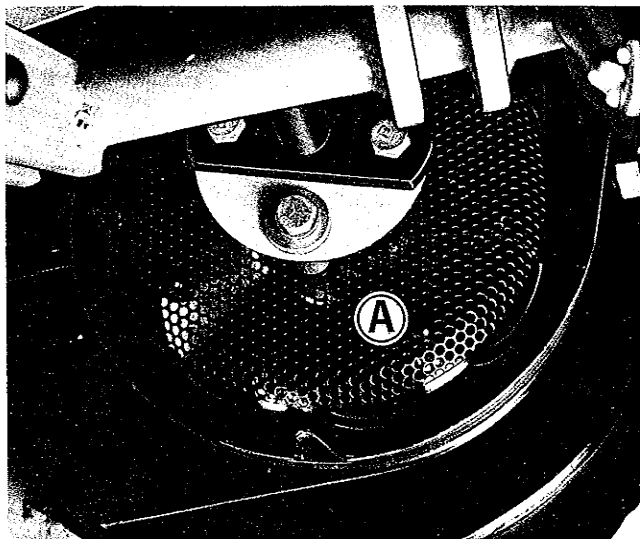

Figure 18. Engine blower screen located at rear of engine as seen from beneath tractor.
**CLEAN ENGINE FINS AND SCREEN:** See figure 18. The blower screen (A) must be kept relatively free of chaff, grass, etc., which would restrict the flow of cooling air to the engine. Material which collects can normally be removed with a brush after the engine is shut off. The screen may need to be cleaned more often when mowing dry grass.